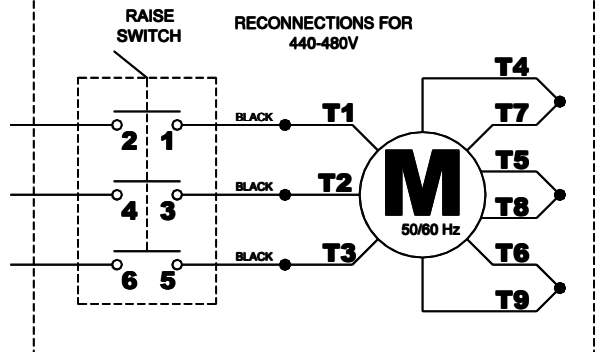

Fig 13 – Electrical Wiring Diagram
33) Connect the Overhead Limit Switch Cord to Power Unit as shown in **Fig 13**.
34) Connect Power Unit to suitable electrical source as shown in **Fig 13**.